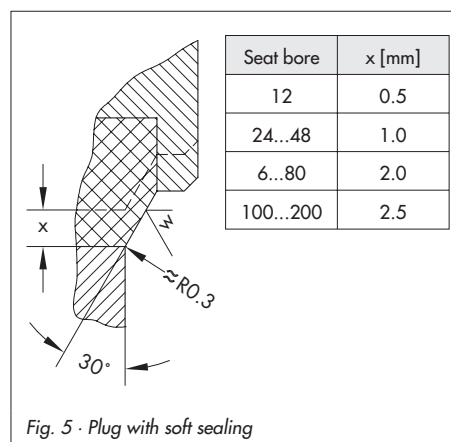

Fig. 5 · Plug with soft sealing
- Slight damage at the sealing edges of the plug can be eliminated by re-turning it on a lathe. Soft-sealing plugs can only be reworked until dimension x (Fig. 5) is reached, and if the seat bore exceeds 12 mm. For seat bores of 63 mm and